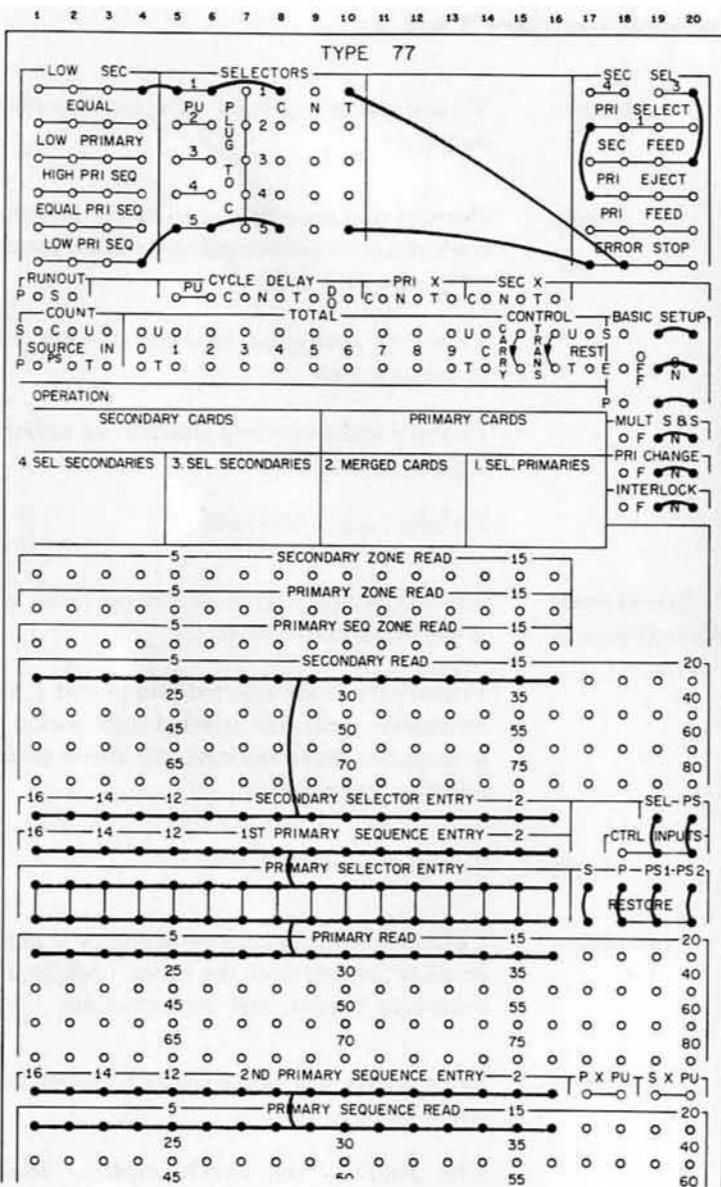

FIGURE 3
**Control-Panel Wiring (Figure 3)** LOW SECONDARY output should not occur and is wired to ERROR STOP.